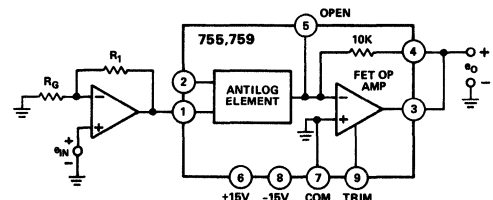

Figure 6. Method for Adjusting  $K < 2/3V$
**Scale Factor (K) Adjustment** — The scale factor may be adjusted for all values of K greater than 2/3V by the techniques described in the log section. If a value of K less than 2/3V is desired for a given application, an external op amp would be required as shown in Figure 6. The ratio of the two resistors is approximately: